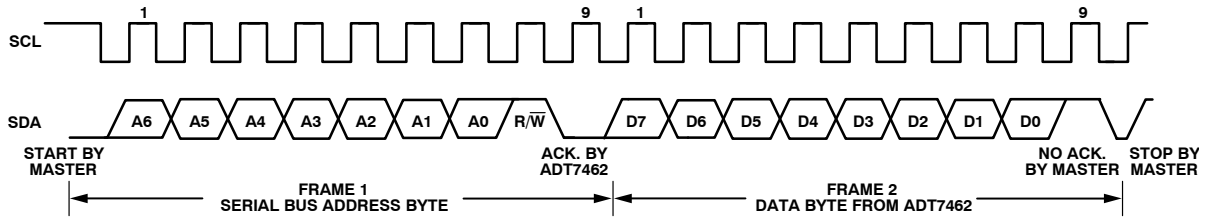

Figure 26. Reading Data from a Previously Selected Register
A read operation is then performed, consisting of the serial bus address and the $R/\overline{W}$ bit set to 1, followed by the data byte read from the data register (see Figure 26).
- If the address pointer register is known to be already at the desired address, data can be read from the corresponding data register without first writing to the address pointer register (see Figure 26).